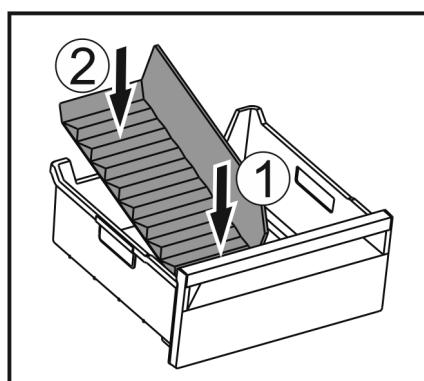

Fig. 209
- Insert the front part of the ice compartment divider. Fig. 209 (1)
- Lower the rear part of the ice compartment divider to the drawer bottom. Fig. 209 (2)